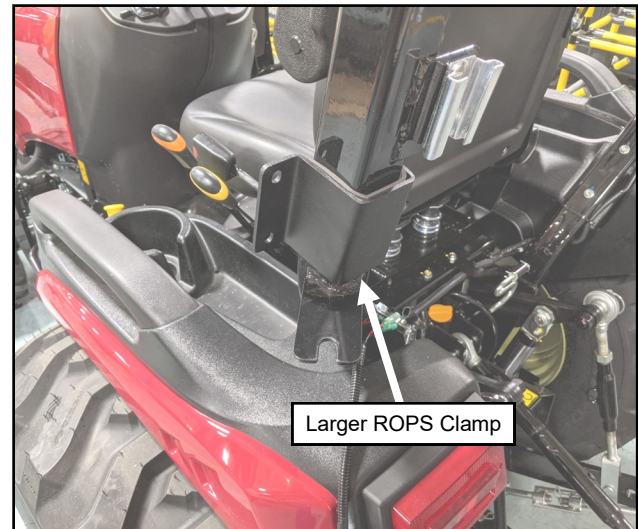

Fig. 3.1 (Slide On Lower ROPS Bracket)
- 3.1 Slide on the lower ROPS clamp (taller one) onto the ROPS just above the flasher bracket. See Figure 3.1.